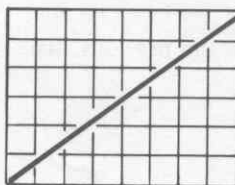
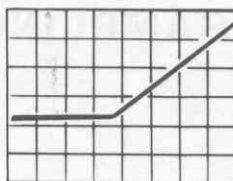

Figure 2-5A
Figure 2-5B
- () With the VERTICAL GAIN control fully clockwise, turn the HORIZONTAL GAIN control until you see a diagonal line as shown in Figure 2-5A. This line may appear as shown in Figures 2-5B through 2-5E. If so, correct the trace to a straight diagonal line by making the adjustment suggested with the appropriate Figure.